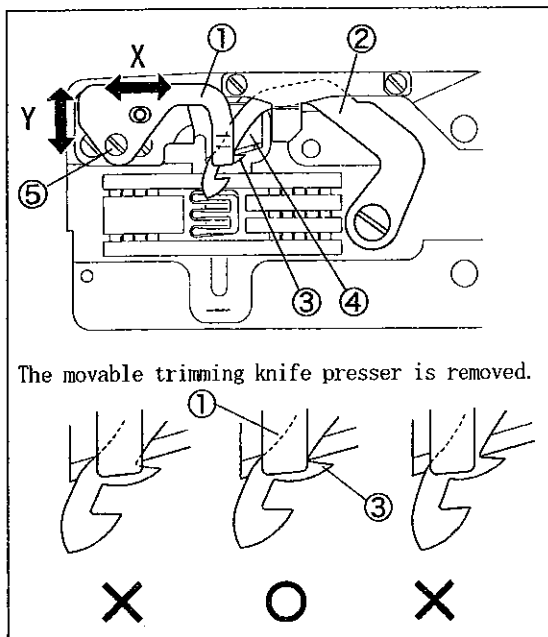

Fig.31
For the standard position of the thread clamp①, make adjustment on the direction "X" to align the thread clamp① with the end of hook③ on movable trimming knife②, when the end of the hook③ on movable trimming② knife is engaged with the fixed trimming knife④. (Fig. 31)